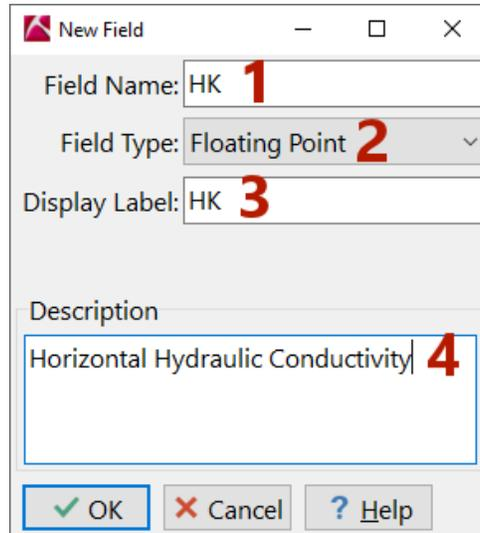

Figure 5
Step 4. Enter the properties for the new horizontal hydraulic conductivity (or permeability) field (Figure 5). These properties include;